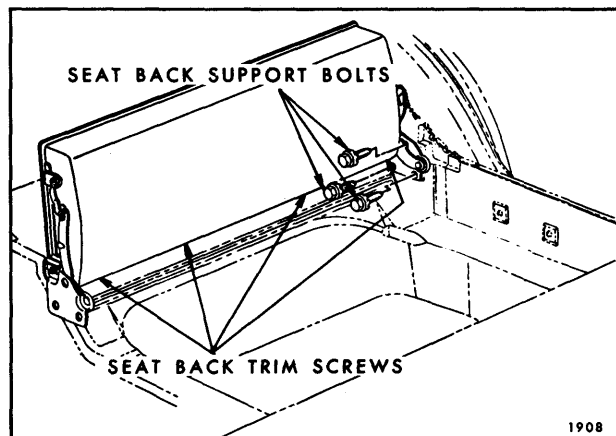

Fig. 15-59—Folding Third Seat Back
2. Remove four screws securing lower edge of seat back trim to seat back panel. (See Fig. 15-59).